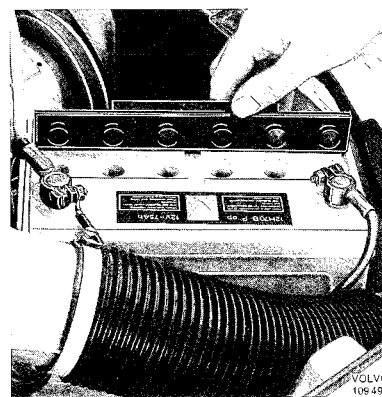

Fig. 1-17. Battery
1. Check that the electrolyte level in the battery is about 5 mm ( $\frac{3}{16}$ " ) above the plate (Fig. 1-17). If necessary fill with **distilled** water. Also check that the battery and battery terminals are secure.